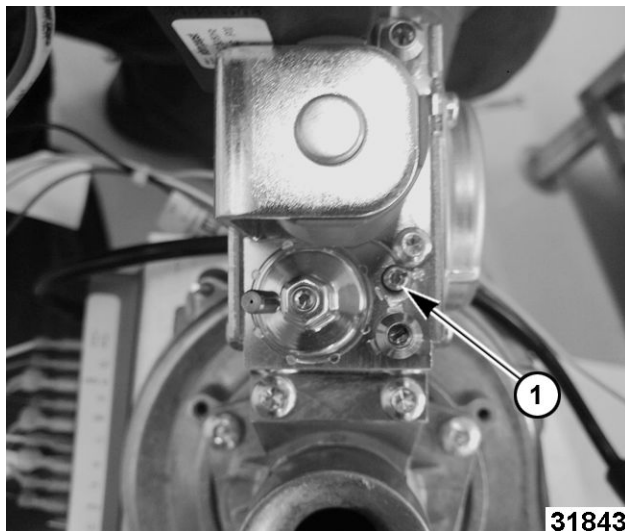

Fig. 2
- C. Turn adjustment screw (1, Fig. 2) all the way in until it bottoms out.